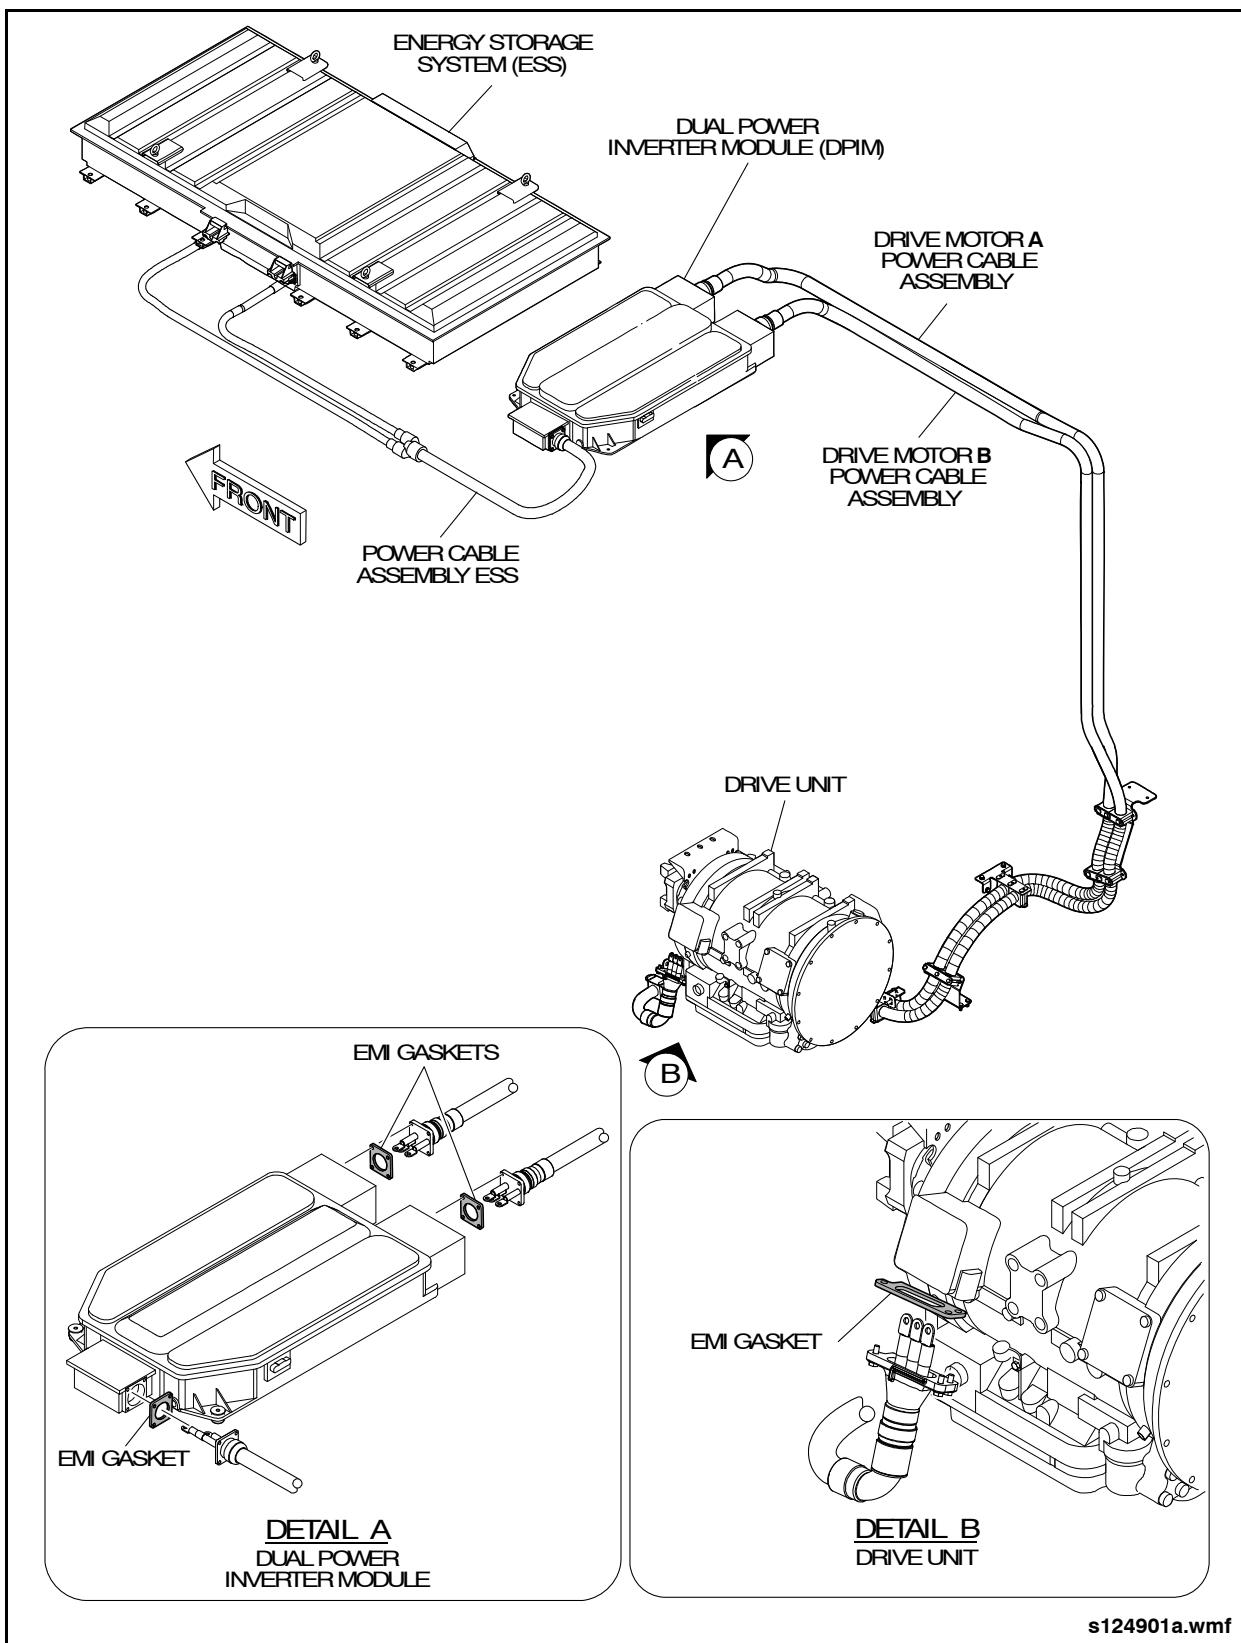

Fig. 5-13: High Voltage Cable EMI Gaskets
17. Connect lugs that retain high voltage wiring to drive unit. Install high voltage covers with new Electromagnetic Interference (EMI) gasket and torque cover bolts to 21 ft-lb. (28 Nm). See "Fig. 5-13: High Voltage Cable EMI Gaskets" on page 15.